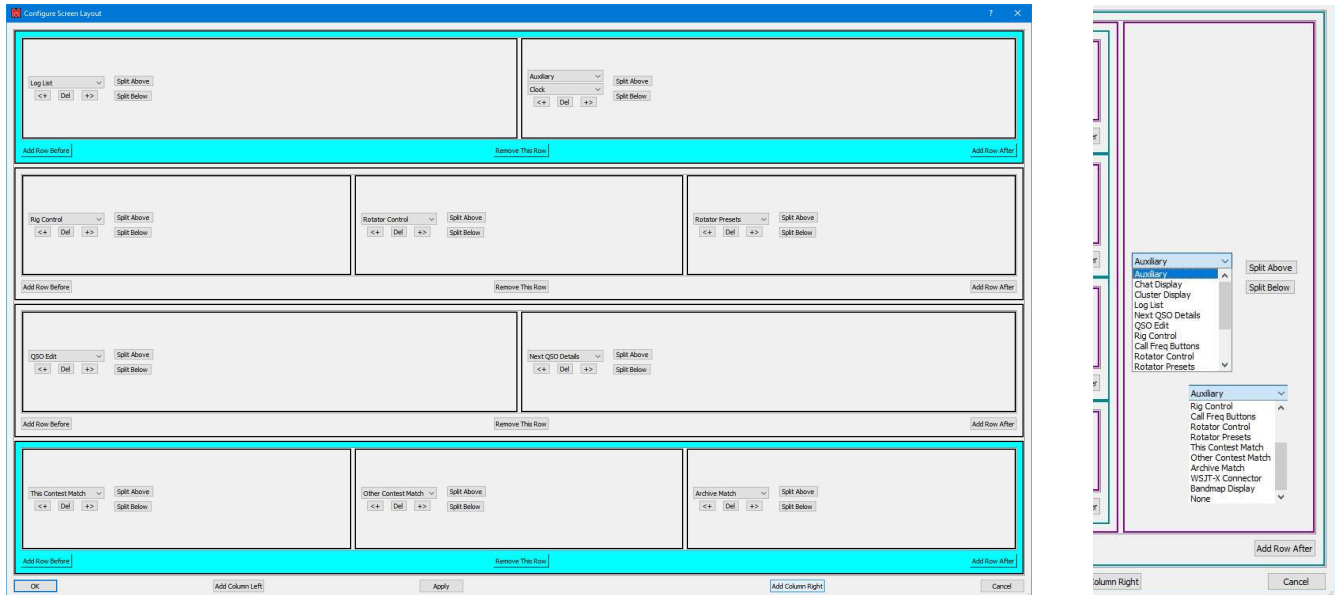

Figure 49 – Add column to left/right
- “Add Column Left/Right” is typically used for the Bandmap Display⁵¹ (Figure 49 right), although other panels may be configured. The extent of the column is marked by selecting top and bottom rows using (Figure 49 left) then clicking the requisite button⁵².